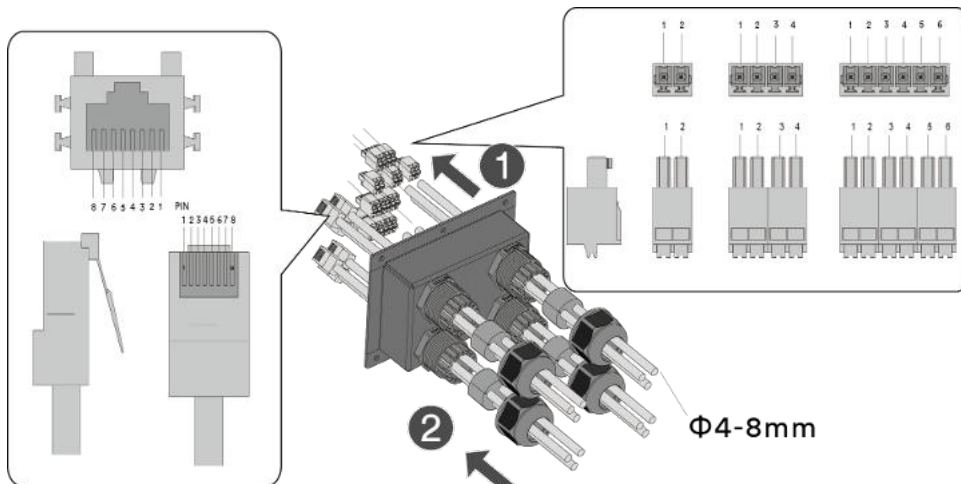

Fig. 52. Communication leads through the cable
3. Route the communication cable through the communication cover and crimp the wiring terminal. The sequence of the crimping wires of the wiring terminals is shown in the following figure (see Fig. 52).